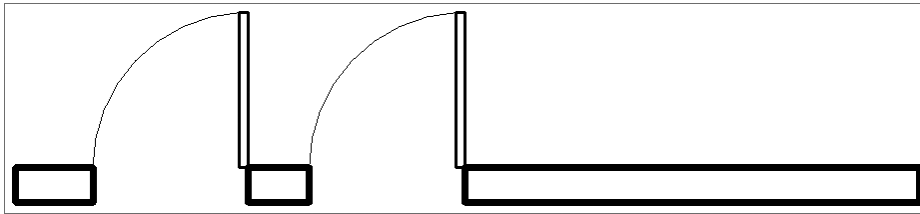

FIGURE 2.9 Hosting doors in a wall
1. Activate the Sketching Walls floor plan, and place two doors, as shown in Figure 2.9.